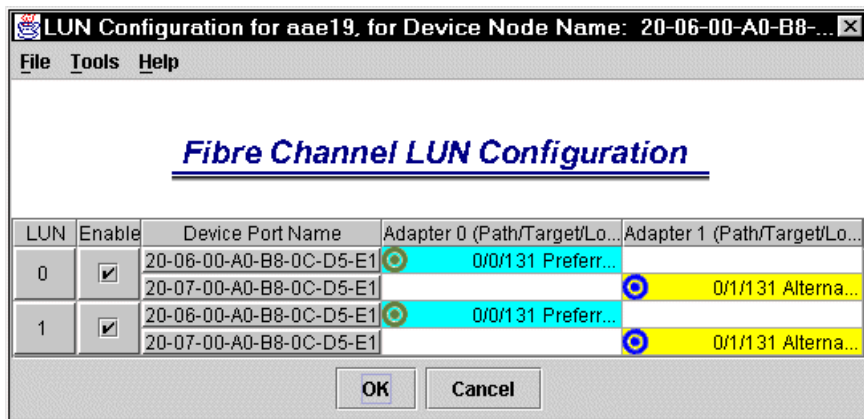

Figure 4-7 FASTT MSJ LUN configuration
8. To enable load balancing, highlight the storage subsystem represented by the node name and click **LUNs-> Configure LUNs** from the menu. Then the LUN configuration window appears as shown in Figure 4-7.